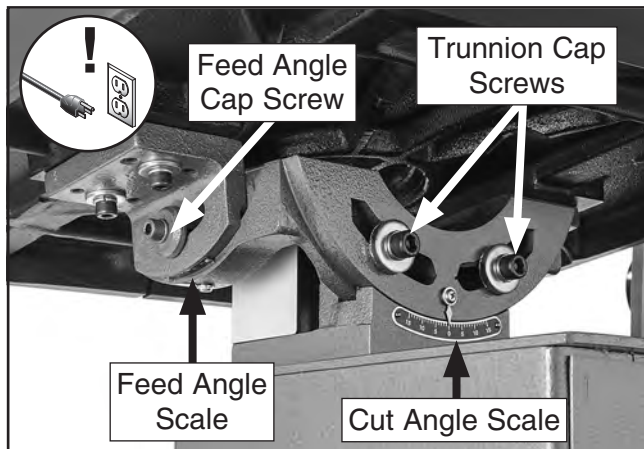

Figure 62. Location of table scales.
3. Loosen the trunnion cap screws (see **Figure 62**).